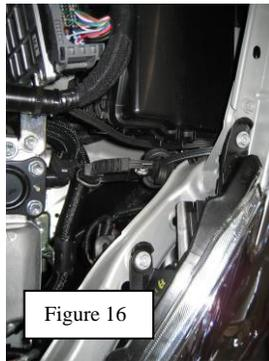

Figure 16
14. Store excess cord and AC terminal in the area between LH Headlamp and the inverter (Figure 16).